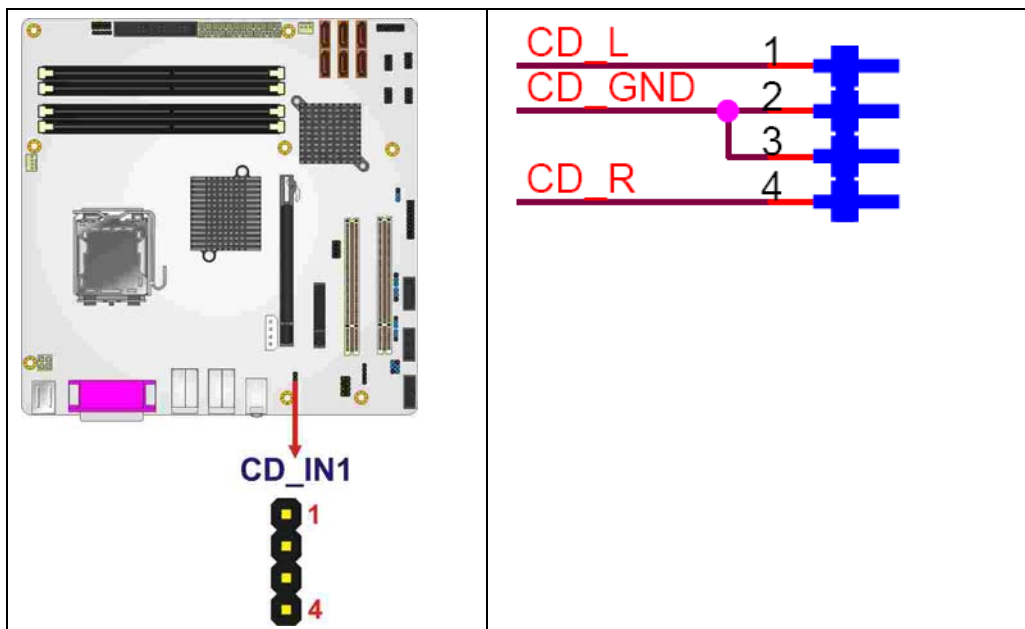

Figure 4-3: Audio CD In Connector Pinouts (4-pin)
- CN Location:** See **Figure 4-3**